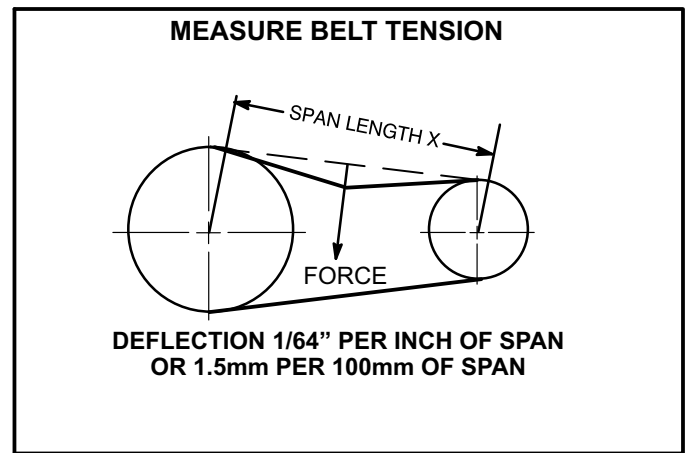

FIGURE 19
- 1 Measure span length X. See figure 19.
- 2 Apply perpendicular force to center of span (X) with enough pressure to deflect belt 1/64" for every inch of span length or 1.5mm per 100mm of span length.